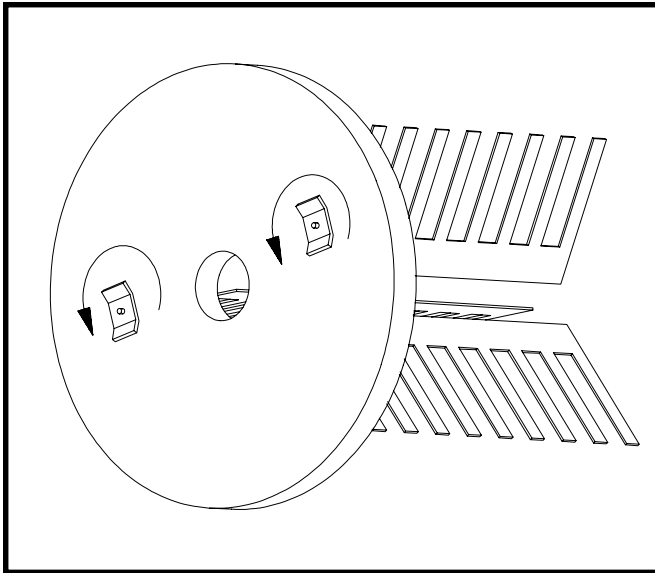

Figure 21
5. Unscrew the divider plate from the agitator fingers and remove (Fig.21).